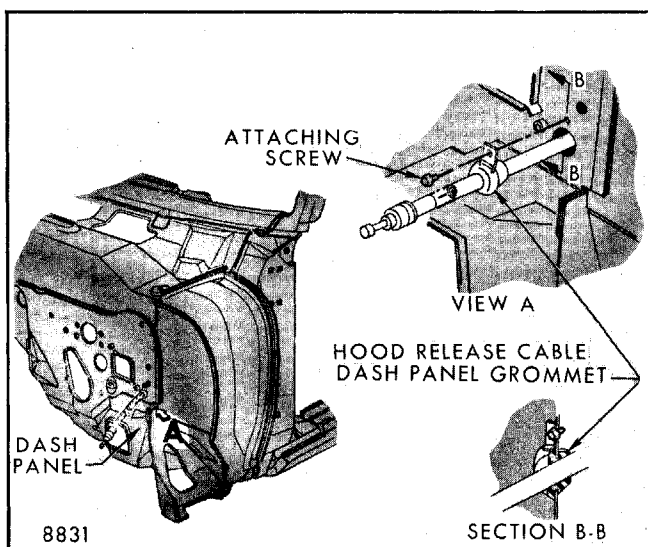

Fig. 4-13 - Hood Release Cable Dash Panel Grommet
3. Remove screw securing release cable grommet to firewall and remove grommet from cable (Fig. 4-13).